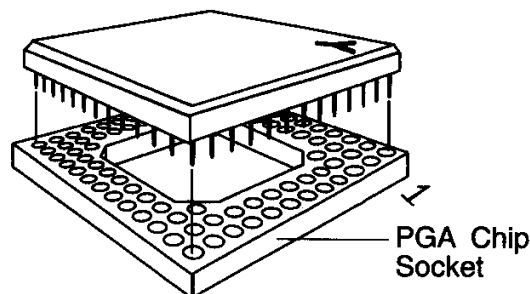

Figure 4-4. Inserting 68040 chip
5. To install the 68040 chip, you must determine the location of pin 1 on the socket and on the chip you are installing. A small "1" printed on the module near one corner of the socket indicates the pin 1 location. Pin 1 on the chip is indicated by an L-shaped mark on one corner of the chip. Orient the chip so that the pin 1 locations of both match. Set the chip down in the socket, and when you are sure all pins are resting in their socket holes, press the chip firmly down in the socket, as in Figure 4-4.